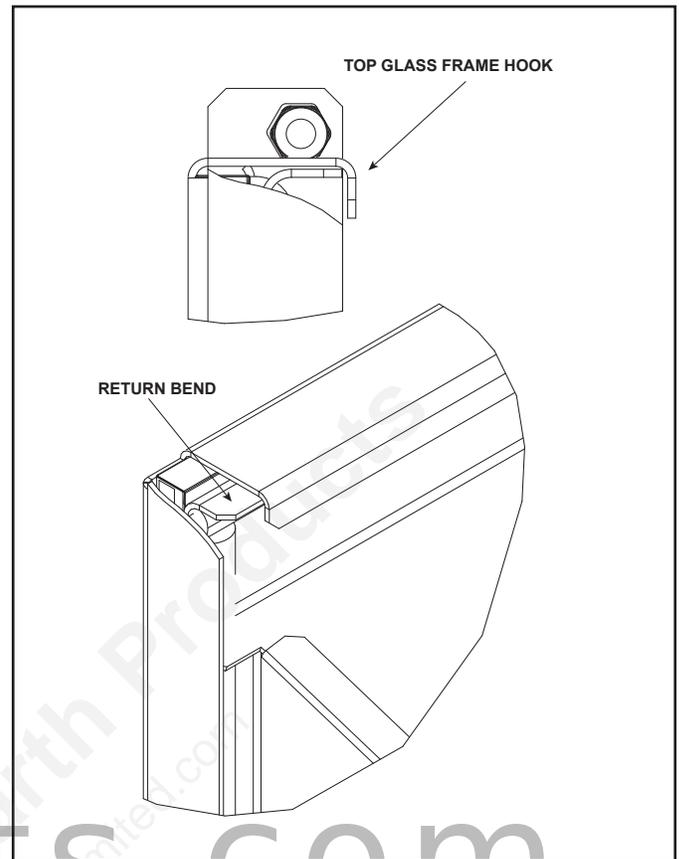

Figure 16.3 Top Glass Frame Hook
1. Insert the top glass frame hook on the return bend on the top side of the firebox. See Figure 16.3.